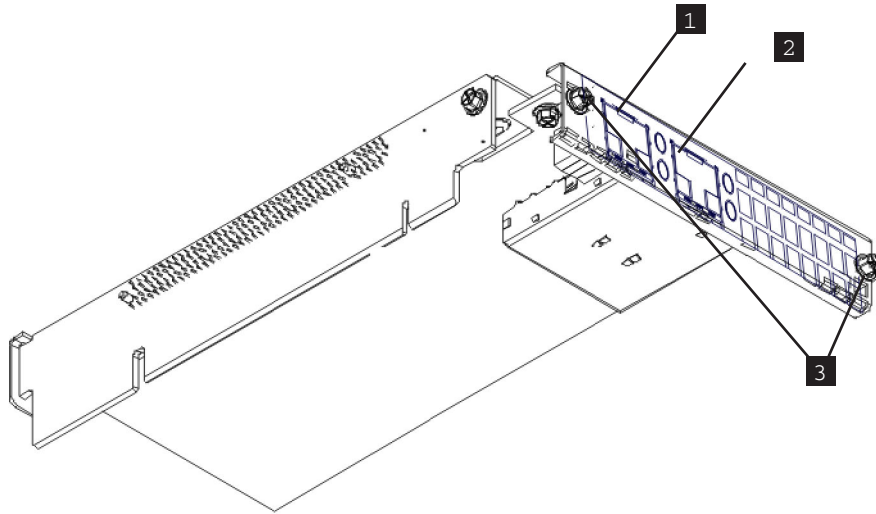

Figure 193. SAN Volume Controller 2145-CG8 10 Gbps Ethernet riser-card assembly with cutaway view of back rail
- | 6. Anchor the Ethernet riser-card assembly using two fastening screws from the back of the node, as shown in the cutaway view of a section of the rail in Figure 193 on page 196.